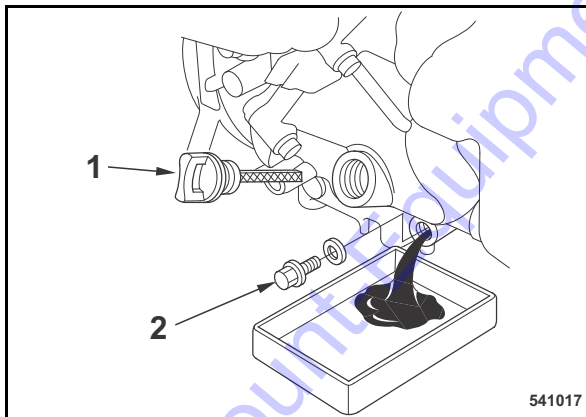

Fig. 38
- Clean the area around oil dipstick (1) (Fig. 38) and drain plug (2).